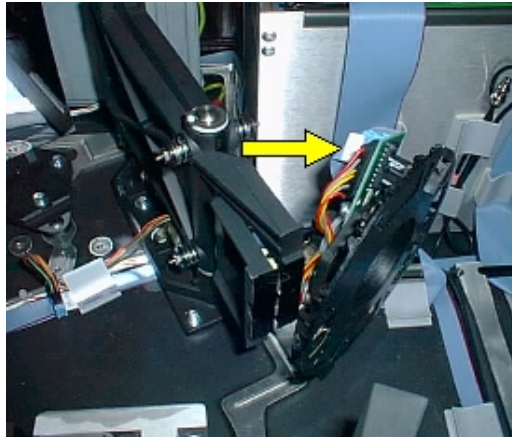

Figure 108 Attaching the excitation control cable
6. Attach the excitation filter wheel control cable, as shown in Figure 108.